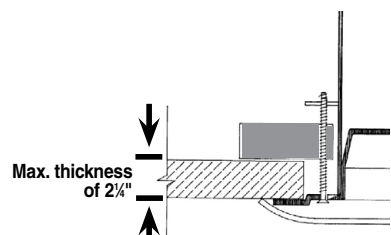

FIG. 4
- Figure 4 Enclosure installation from below ceiling without tile bridge. This blind-mount installation method, which is most common in plaster, drywall and retrofit applications, is accomplished by cutting an opening to size, inserting the enclosure, and rotating the clamps. Max. ceiling thickness is 2 3/8".